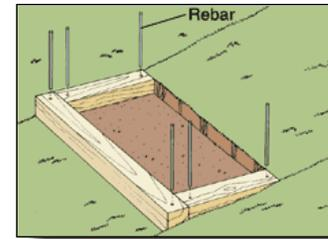

Figure 4
extend 6" past the next step's riser.) Drill $\frac{1}{2}$ " diameter holes approximately 6" from the ends of each timber (figure 4).
STEP 5. Position the timbers in the step and remove or add soil as needed to level them (figure 4).
STEP 6. Anchor the timbers by driving the steel rebar through the drilled holes on the end of each timber and into the ground. Make sure the rebar is level with the timber surface or slightly recessed since the edges may be sharp (figure 4).
STEP 7. Shovel out the soil inside the step to create a surface roughly level with the bottom of the timbers. Additional soil can be removed to provide more area for infiltration if desired. Make sure to dispose of excavated soil in a place where it will not wash away (figure 4).